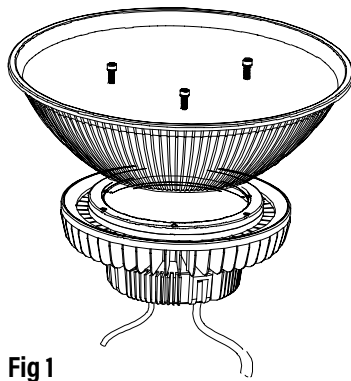

Fig 1
1. Match the holes on the reflector to the threaded holes on the fixture. Insert screws (x3). (Fig. 1)